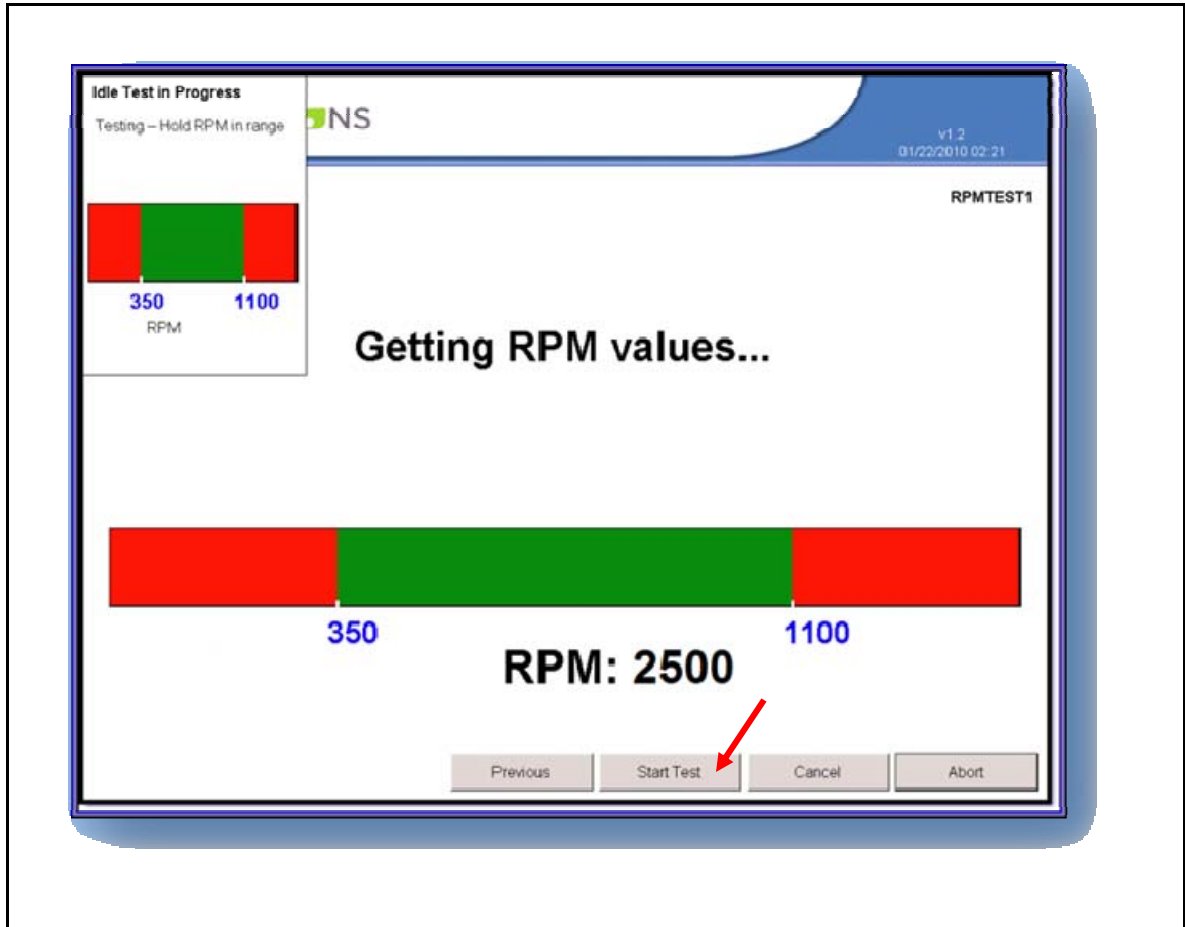

Figure 4-5: Select “Start Test”
| Figure 4-5: Select “Start Test”.....                      | 9  |
- Return vehicle to idle and begin test by selection “**Start Test**” button shown at bottom of (Fig 4-5 below)